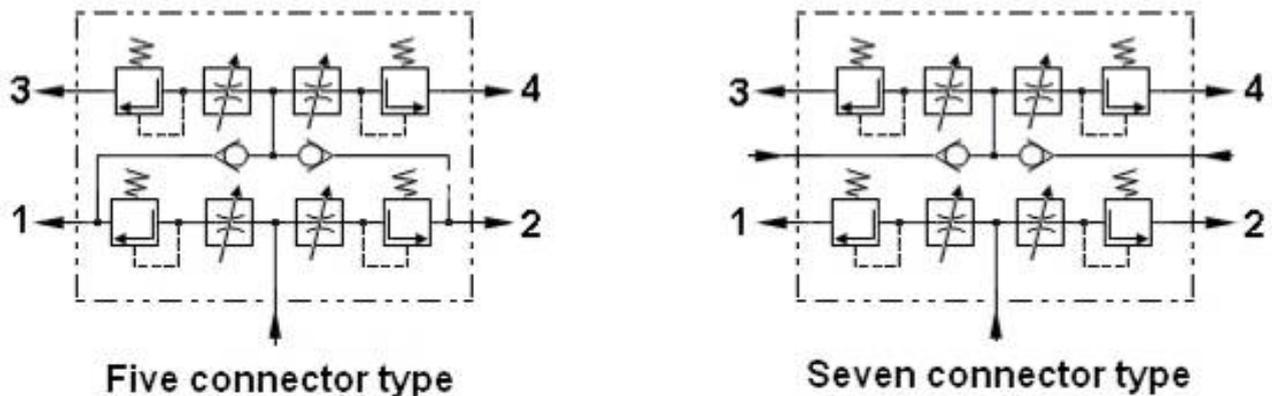
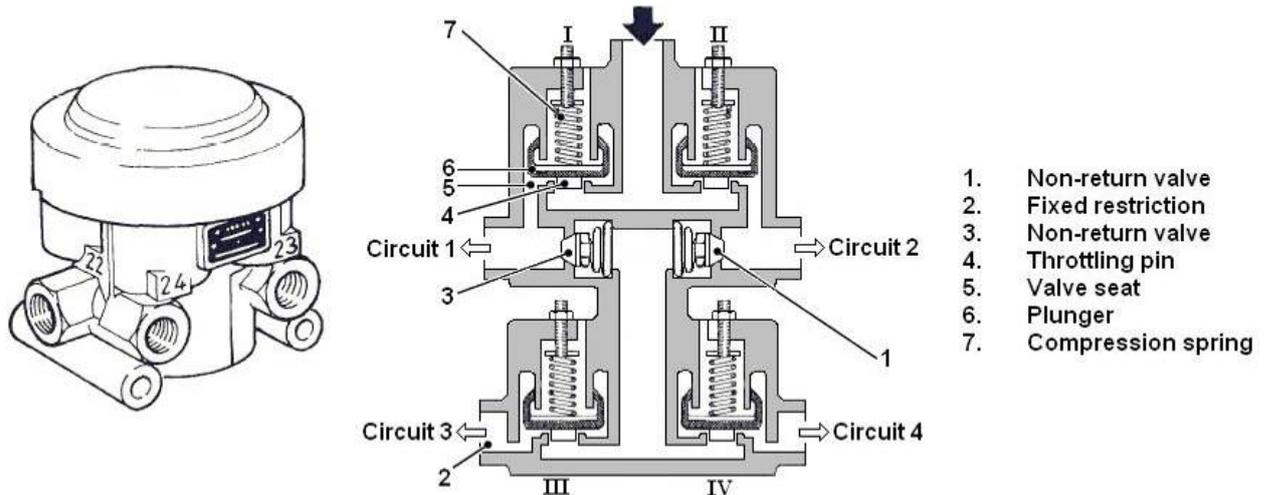

Figure 37 Four-circuit Protection Valve
Figure 38 Functional Diagram, Four-circuit Protection Valve
**86. Four-circuit Protection Valve.** The four-circuit protection valve is used to route the compressed air and to safeguard the pressure in both service brake circuits, the parking brake circuit, the trailer brake circuit and the auxiliary load circuit. The protection valve described is the five-connector type, while the valve fitted to the truck is the seven-connector type. The functional difference is shown in Figure 37. The valves operate in the same manner, with the difference being the air supply to circuits 3 and 4. The air supply to these circuits is from the compressed air receivers via pressure limiting valves. The operation of the protection valve (Figure 38), is as follows:
- a. **Filling.** When the compressed air receivers are empty, the compression spring (Item 7) presses the plunger (Item 6) onto the valve seat (Item 5) and the valve is closed. As soon as the input pressure reaches the opening pressure of the valve, the plunger lifts slightly and compressed air flows to Circuit 1. The effective area of the cap seal on the plunger is larger than the area of the plunger end; therefore, as pressure builds up at the output port, increased force is exerted on the plunger because of the additional cap seal area available when the plunger (Item 6) leaves the valve seat (Item 5). This has the effect of increasing the rate of counteracting the compression spring and the valve opens quickly until it is fully open. This action withdraws the throttling pin (Item 4) from the valve opening and allows full air flow to the compressed air receivers. The compressed air receivers in Circuit 1 and Circuit 2 are filled simultaneously, or in succession, depending on the opening pressures of valves I and II. Compressed air is fed via the non-return valves (Item 1 and 3) to valves III and IV. Valves III and IV are set to the same opening pressure as valves I and II, and operate in the same way. The fixed restrictions (2) downstream of valves III and IV prevent the valves closing during temporary large demands in Circuit 3 and Circuit 4.